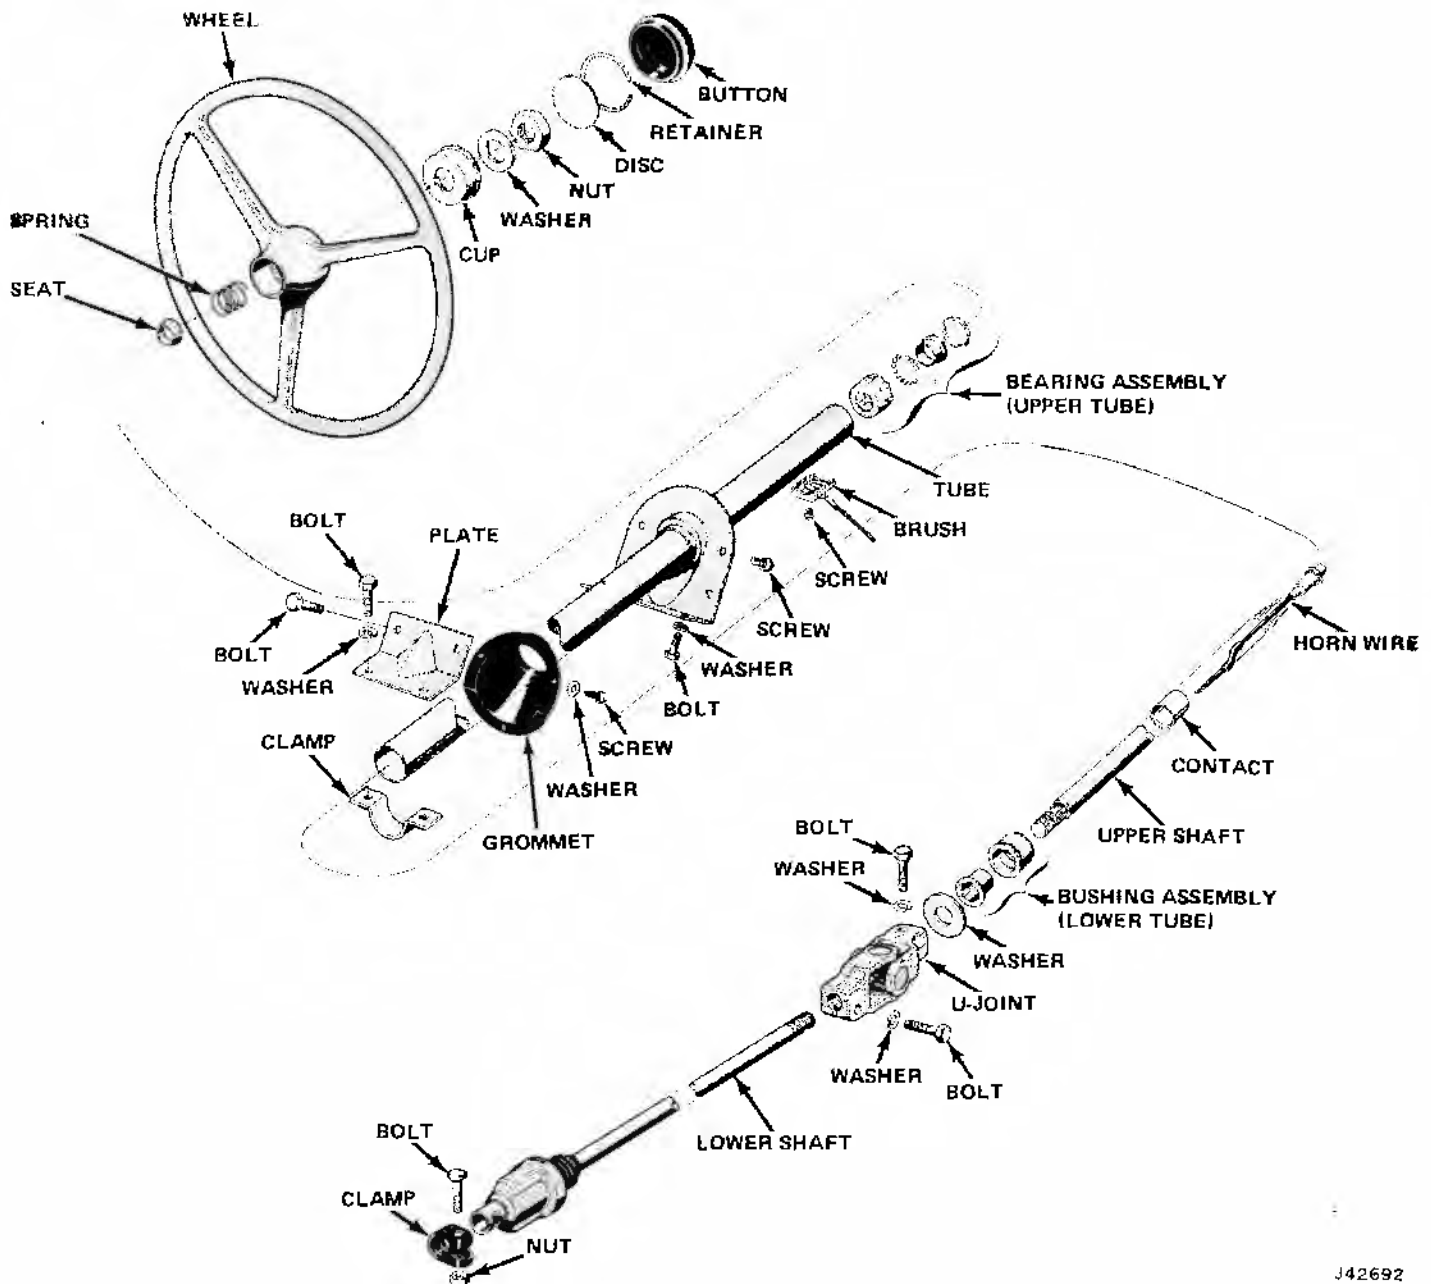

Fig. 11-4 Steering Column—CJ Models
(1) Remove steering wheel.
(2) Remove upper steering shaft from steering column and horn wire and contact ring from shaft (fig. 11-4).
(3) Remove horn contact brush from column.
(4) Remove bearing assembly and bushing assembly from steering column ends.
(5) Inspect all parts for damage and wear. Replace worn or damaged parts.